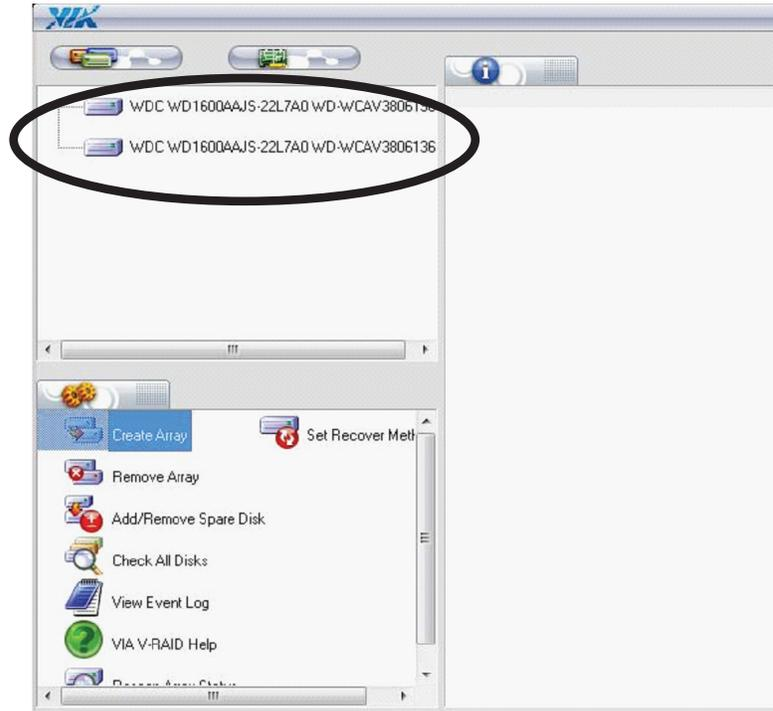

Figure C-5 VIA V-RAID Utility
2. Launch the VIA V-RAID Utility by clicking on **Start, Programs, VIA, RAID** and then on **VIA V-RAID Utility**. The available drives are displayed in the upper left window (Figure C-5).